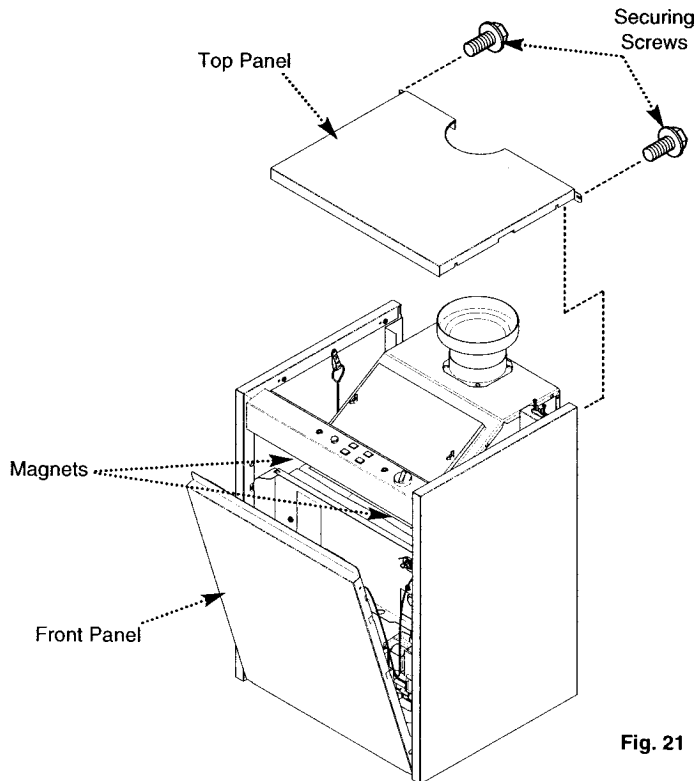

Fig. 21
5. Refit the outercase front and top panels (Fig. 21).